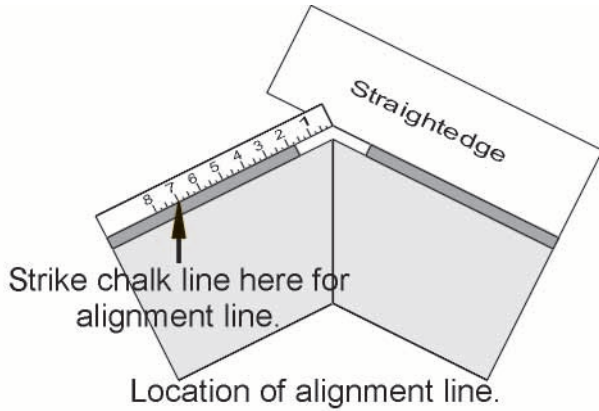

Figure 4
**STEP 3** - It is very important that the OmniRoll™ ridge vent be aligned correctly and evenly down the roof's ridge. Snap a chalk line down both sides of the ridge at a distance of 7" down from the peak as shown in Figure 4. The chalk lines should be used to help keep the OmniRoll™